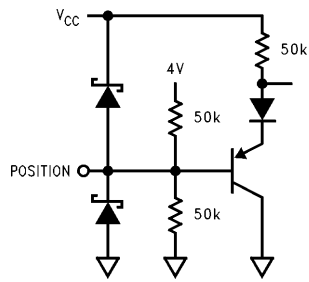
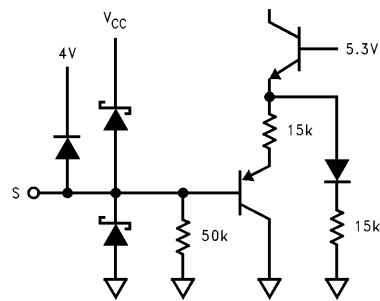

FIGURE 8
FIGURE 13
See *Figure 8* through *Figure 13* for input and output schematics.
**Pin 1. POSITION:** A 0V to 4V DC voltage applied to this pin sets pin 13 (DC OUT) output voltage from 3.65V to 4.05V. See *Figure 8* for the input schematic.
**Pin 16. S:** A 0V to 4V DC voltage applied to this pin adjusts the amount of S correction in the sawtooth waveform at pin 15 (SAWTOOTH OUT). 0V sets maximum S correction. See *Figure 13* for the input schematic.